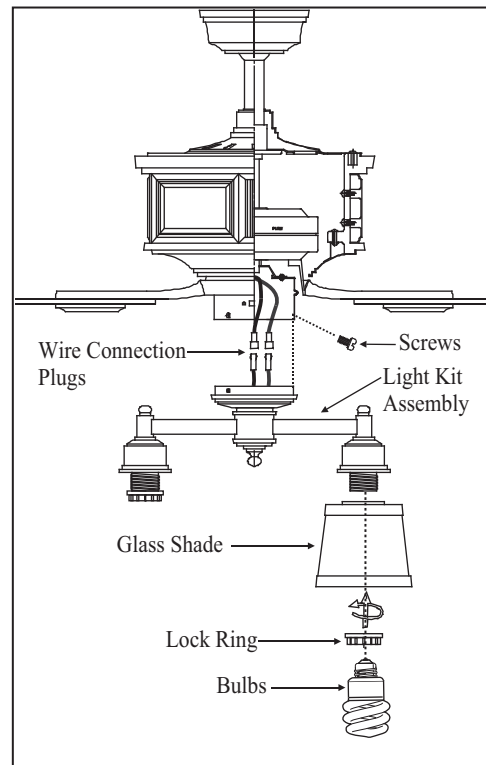

Figure 19
2. While holding the light kit assembly under your fan, Make the polarized plug connections: (Figure 19)
3. Carefully push all wires back into the switch housing, then install the light kit assembly onto the mounting plate with 3 screws provided. Be sure to tighten all screws. (Fig. 19)
4. Remove the lock ring from the socket by turning the lock ring clockwise Until it unlocks. Insert the glass into the glass holder and turn the lock ring counter-clockwise to tighten the glass. Repeat for the remaining glass. (Fig. 19)